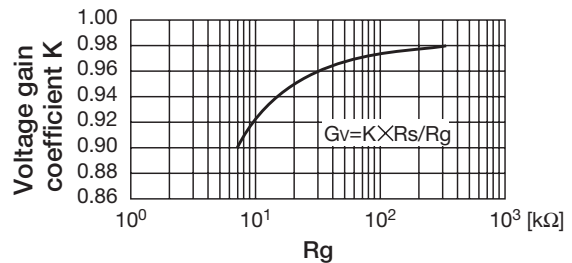

Fig.6. Voltage gain coefficient K vs Rg
2.  $R_g$  and  $R_s$  are external resistances.  $R_g$  is used to set the sensitivity, with smaller resistances yielding higher sensitivity.  $R_s$  is used to set the output scale; to obtain a larger output range, choose a higher resistance.  $R_s/R_g$  is the total gain. In actuality, there is a degree of error, and so a coefficient  $K$  is included (cf. Fig. 6).
Rs/Rg nearly coincides with the voltage gain, with a slight difference. This difference is represented by K, but as Rg changes K also changes. This relationship is indicated in Fig. 6.